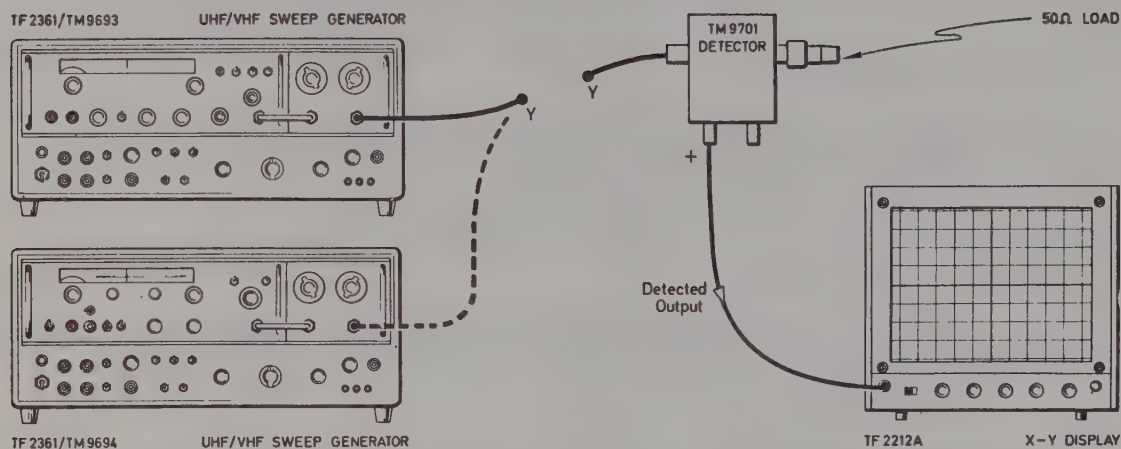

Fig. 1 Gain measurement
10. Connect the equipment as shown in Fig. 1, then proceed as follows:-